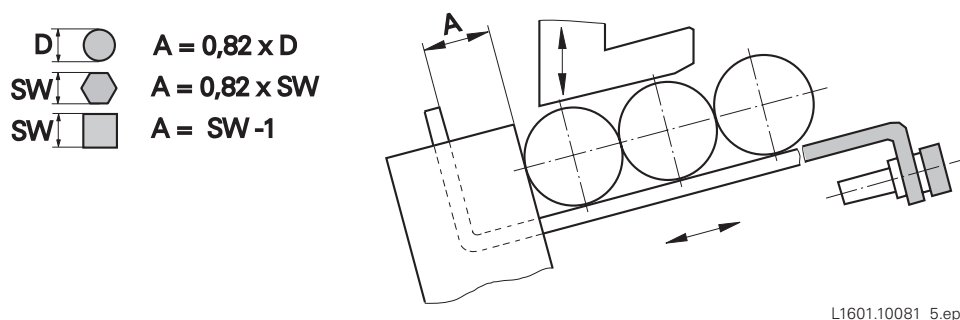

Fig. 8
4. Adjust distance between swivel levers and baffles of the supply areas according to the stock diameter, the width across flats respectively, using the data provided in Fig. 8.
7. Adjust holding down device according to Fig. 8